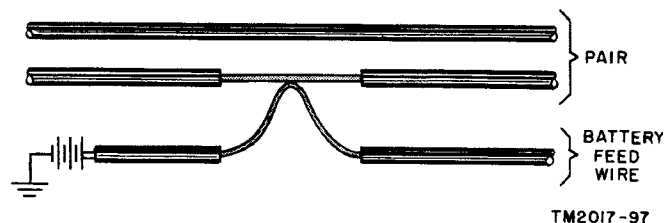

Figure 36. Simplified drawing of a cross between one wire of a pair and a battery-feed wire.
- (1) If the meter needle remains on 0, remove the red meter lead from the 600V jack and touch it to each of the following jacks in this order: 300V, 30V, and 3V. Each time the red meter lead touches one of the jacks, check the position of the meter needle. If it moves from the 0 position, a voltage is present on the wire under test. *Unwanted dc voltages may appear on the wires of a pair if they are crossed with a wire that is connected to a dc voltage source (fig. 36).*
- (2) If the meter needle remains on the 0 position, even when the red test lead is touching the 3V jack, dc voltage is not present on the wire under test.